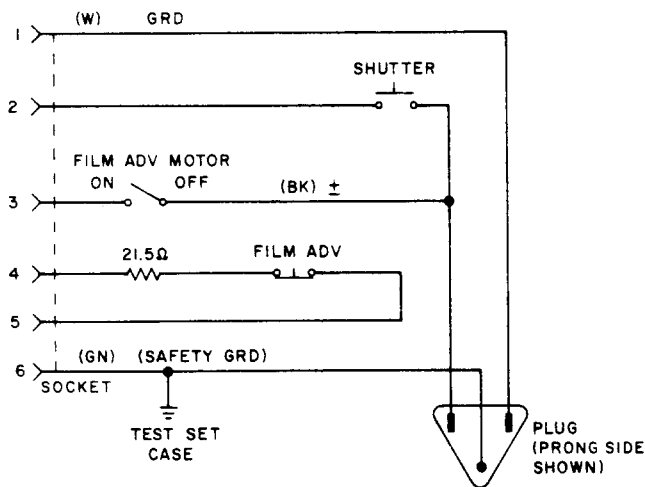

Fig. 1—KS-16338 Test Set Circuit Schematic
(b) **KS-16338 Test Set:** The KS-16338 test set is provided with a 3-conductor power cord which should be connected as shown in Fig. 1 to provide a safety ground. The test set should bear a KS-19764 L1 label, and the cautions on the label should be observed. The toggle switch on the test set should be designated FILM ADV MOTOR ON OFF; if it is not, check that the ground lead on the power cord is connected as shown in Fig. 1. When this is done, add KS-19764 L2 label. Before doing any work on the KS-16007 camera which requires the use of the KS-16338 test set, check the safety ground by connecting an ohmmeter between bare metal on the camera and on the test set with the camera connected to the test set as covered in 3.003.
2.07 Cover Latch Spring Tension: Fig. 1, (E)—The tension of the cover latch spring shall be sufficient to hold the latch plate tang against the spool with no film on the spool.